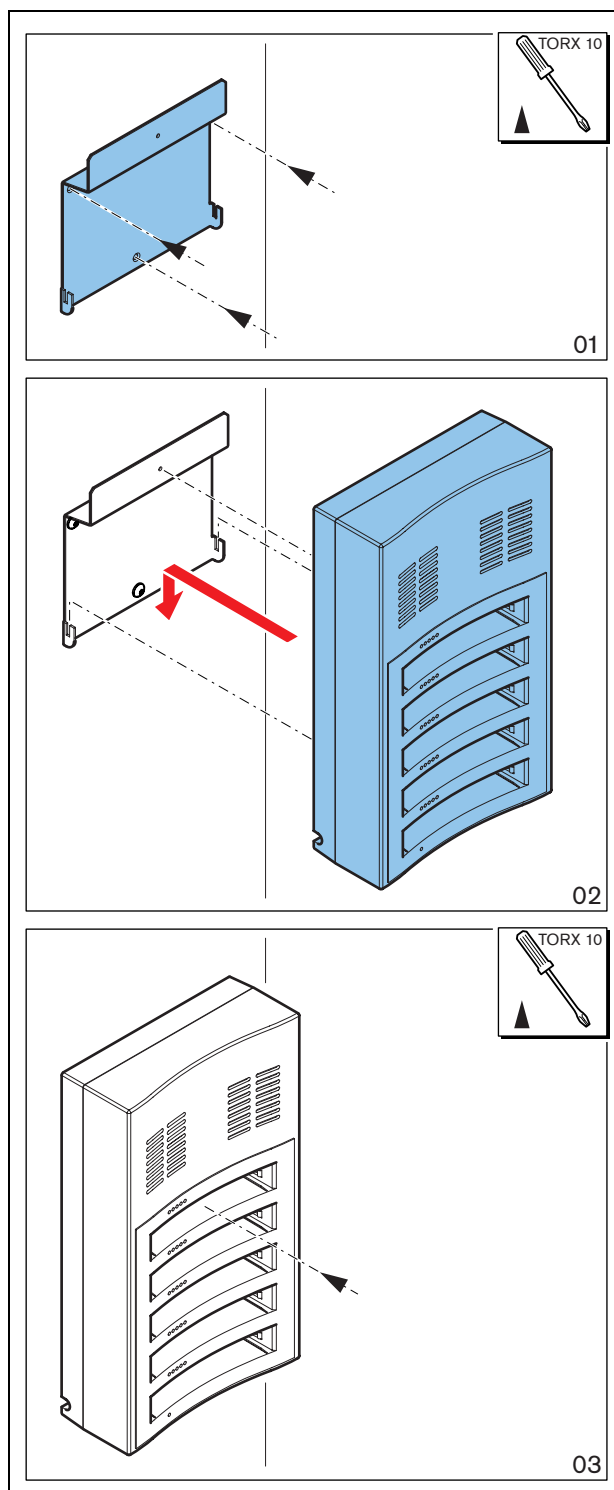

figure 17.2: Installation, wall
You can use the bracket to attach the battery charger to a wall. Refer to figure 17.2.
- The vertical distance between two brackets is at least 340 mm (refer to d_1 in figure 17.2).
- The horizontal distance between two brackets is at least 195 mm (refer to d_2 in figure 17.2).